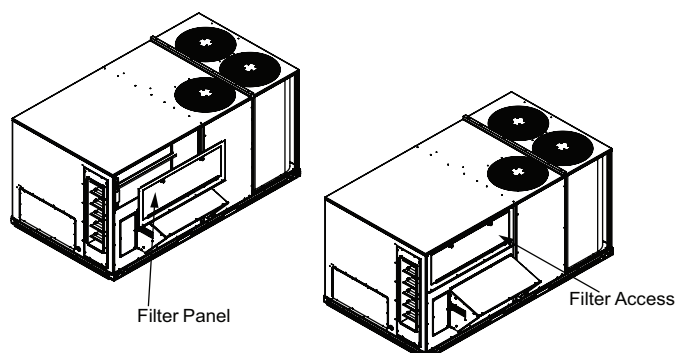

Fig. 6 — Install Filter Access Panel
10. Attach filter access panel above O/A panel assembly. Slide under RTU (Rooftop Unit) top flange then drop down until bottom mount holes align with top holes on O/A assembly. Fasten with provided sheet metal screws. (See Fig. 6.)